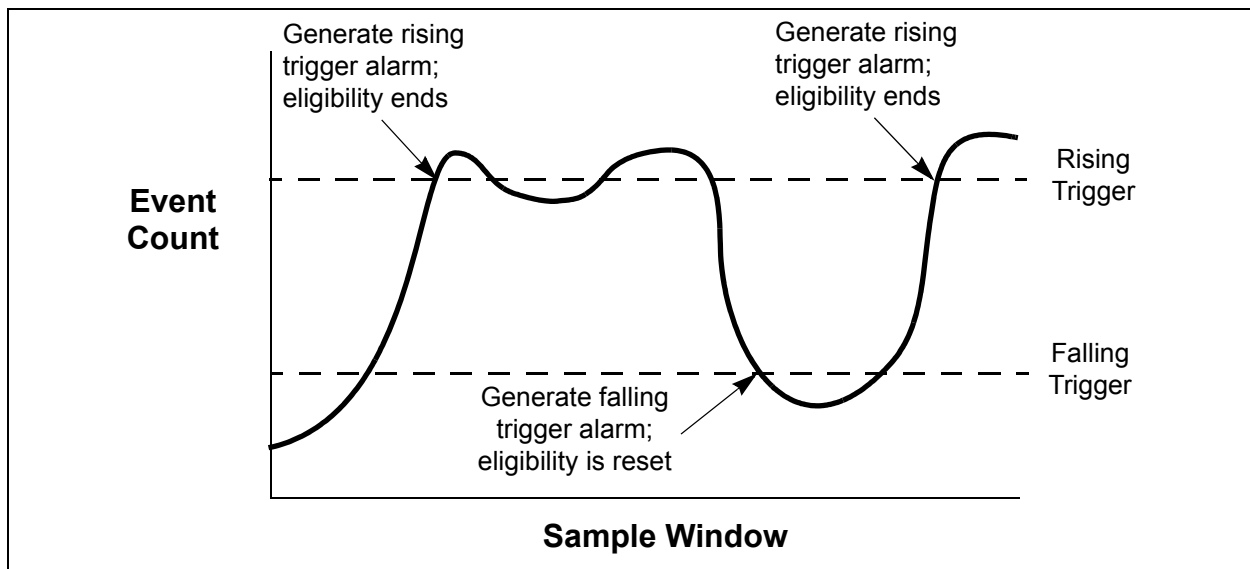

Figure 4-9. Port Threshold Alarm Example
5. Enter a value for the rising trigger. A rising trigger alarm is generated when the event count per interval exceeds the rising trigger. The switch will not generate another rising trigger alarm for that event until the count descends below the falling trigger and rises again above the rising trigger. Consider the example in Figure 4-9.